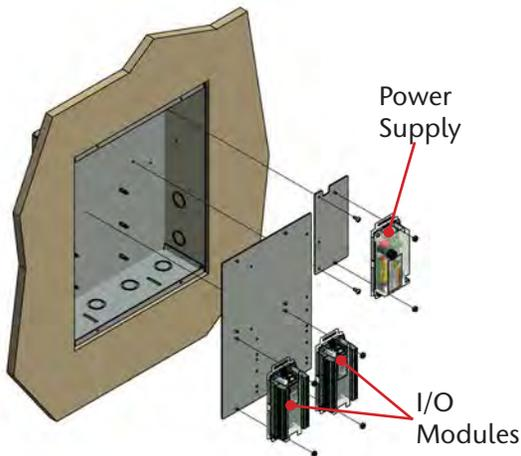

Figure 126: MEGA3™ Adapter Bracket Mounting Single
8. Mount new power supply adapter bracket (small bracket included with kit 4107220616) reusing the hardware and location from the old power supply (Figure 126).
1. Mount the new Power Supply (B05) to the adapter bracket using the nuts provided (Figures 126 - 129).